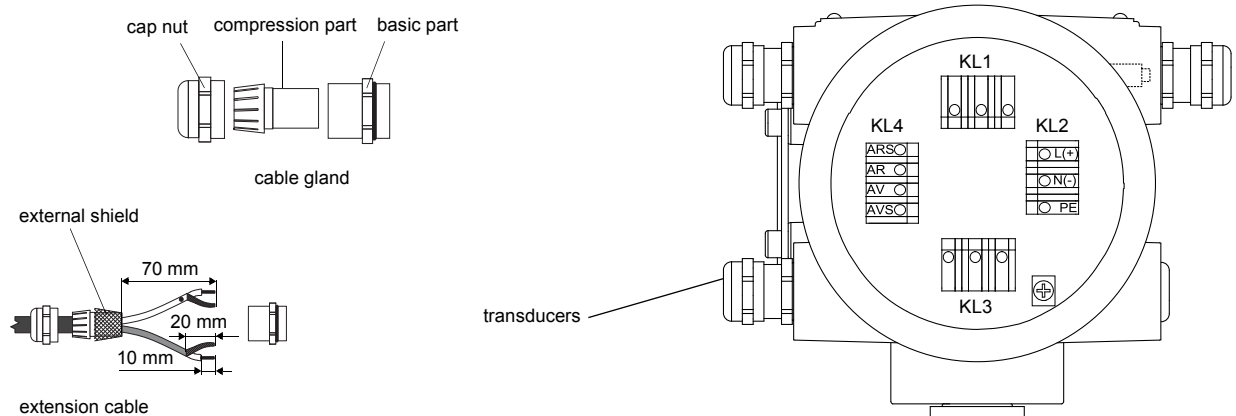

Fig. 6.7: Connection of the extension cable
- Remove the left blind plug for the connection of extension cable (see Fig. 6.7).
- Connect the extension cable to the terminals of the transmitter (see Fig. 6.7 and Tab. 6.3).